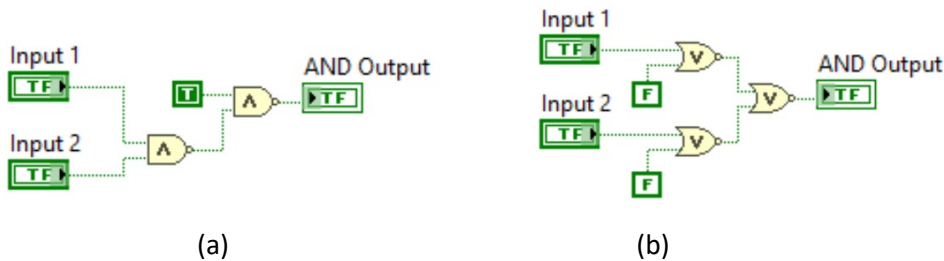

Figure 2.9: (a) AND gate created from only NAND gates. (b) AND gate created from only NOR gates.
If the circuits in Figure 2.9 were implemented in hardware a NAND or NOR gate integrated circuit (IC) could be used that included multiple gates. Being able to use only one type of IC to create all of the possible gate types can reduce cost and add more flexibility in the design of digital circuits. Figure 2.10 shows some popular 7400 series digital ICs. The following link shows more details about the history of this popular logic family and a list of the 7400 series part numbers. https://en.wikipedia.org/wiki/List_of_7400_series_integrated_circuits